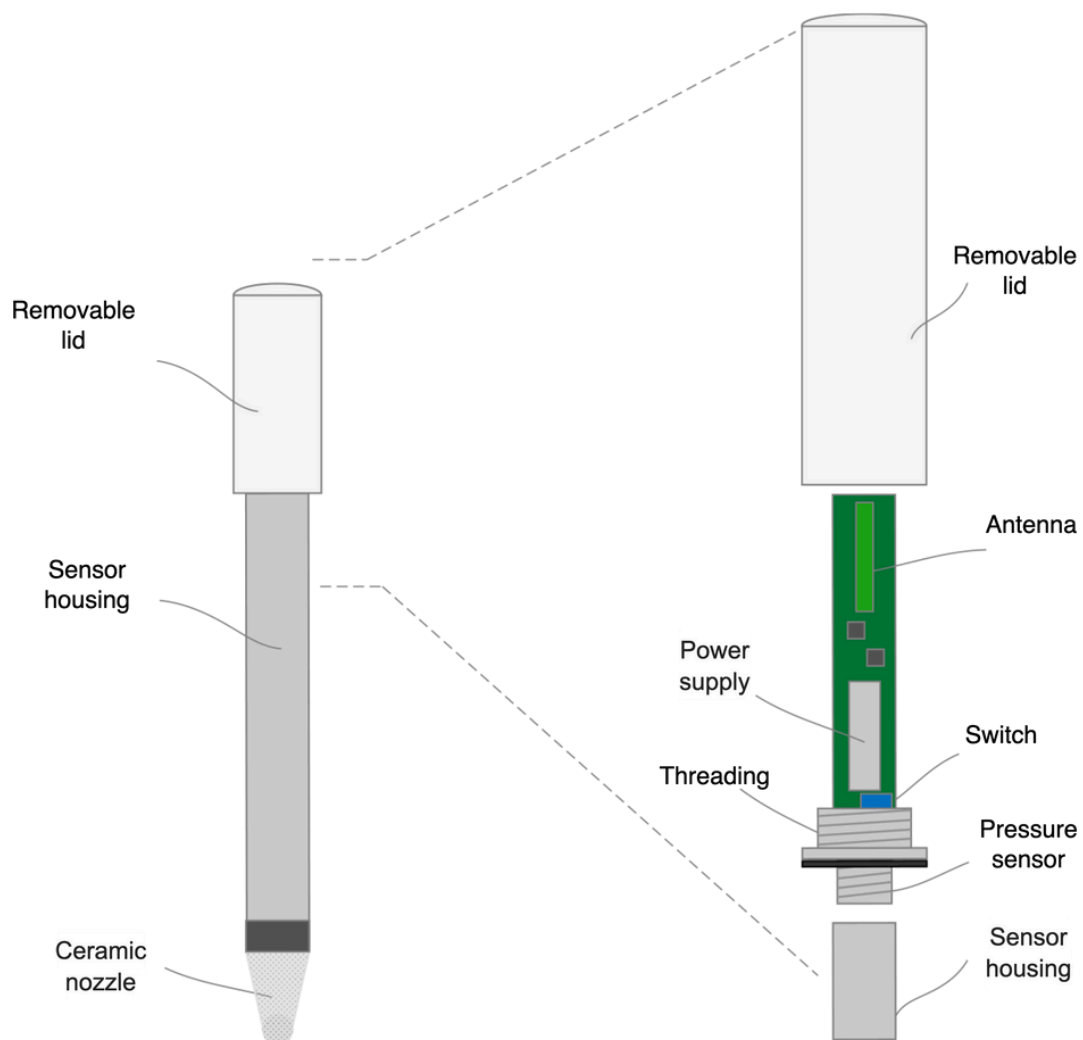

FIG. 1 LOCATION OF THE MAIN COMPONENTS OF THE SENSOR
2. **Access the Switch:** Pull out the board and use the switch marked “Switch” in Fig. 1 to turn the sensor on or off.